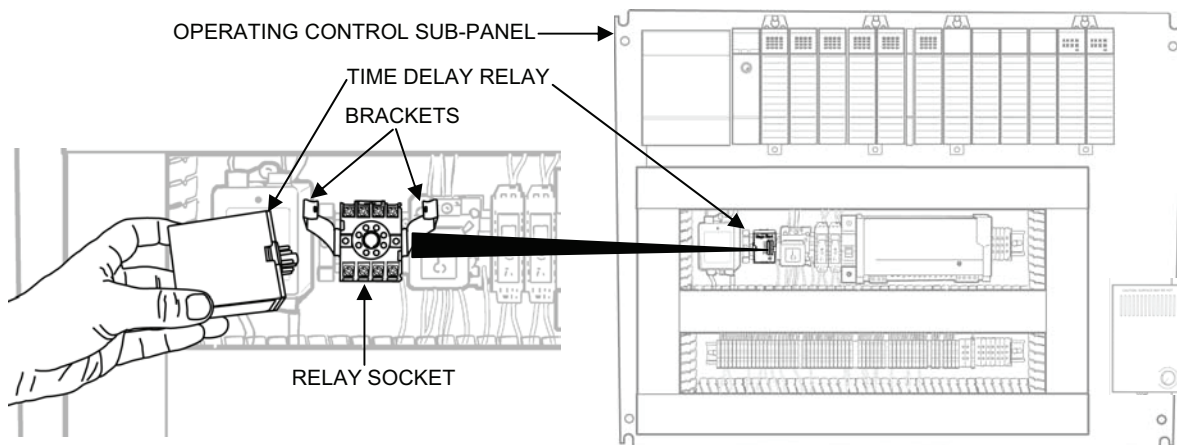

Figure 11. Time Delay Relay Removal.
3. Remove the time delay relay as follows (see Figure 11):